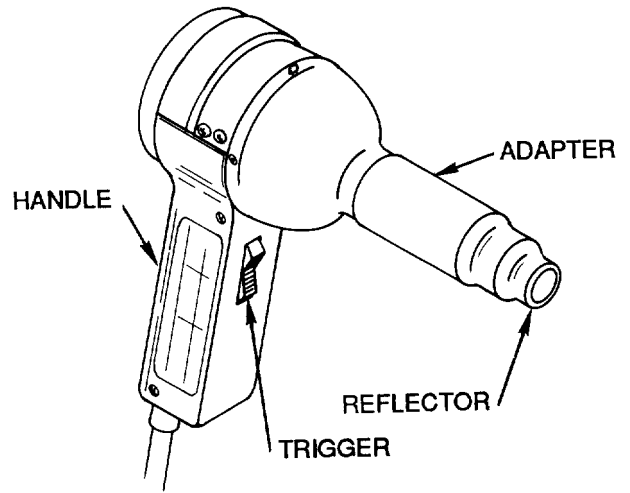

Figure 24. Mini-Gun Hot Air Tool, CV-5300/CV-5302
57. Mini-Gun hot air tool, CV-5300/CV-5302 (Figure 24), is a lightweight hand-held tool used for applying a variety of heat-shrinkable products and solder termina-
58. **PRE-OPERATION.** Prior to using mini-gun heating tool (Figure 24), proceed as follows:
60. **OPERATION.** To operate heating tool (Figure 24), proceed as follows:
61 . **POST-OPERATION.** After using heating tool (Figure 24), proceed as follows: